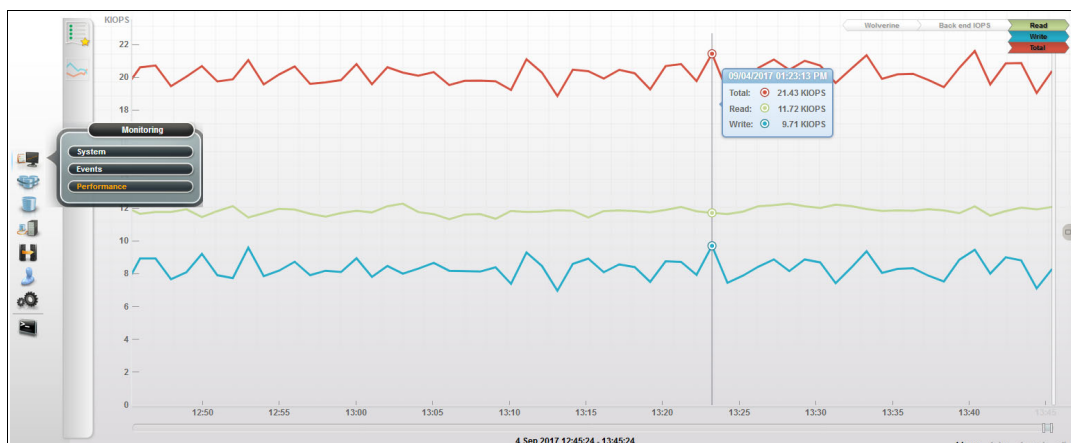

Figure 11-122 Performance Monitoring window
2. Click **Performance** to display graphs that track performance indicators, as shown in Figure 11-122.